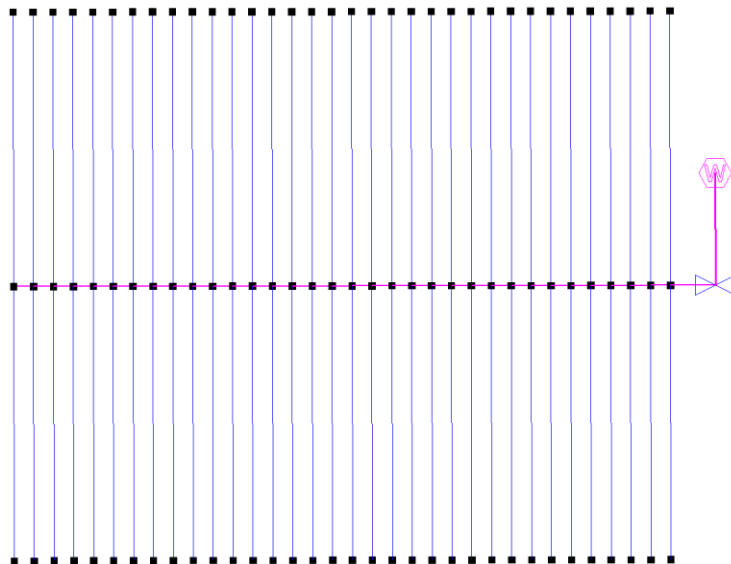

Figure 4-26
12. Select *Mainline/Water Supply* and place on the end of the mainline pipe with a left-click as in Figure 4-26. Leave the Water supply details as the default; simply click **[OK]**.